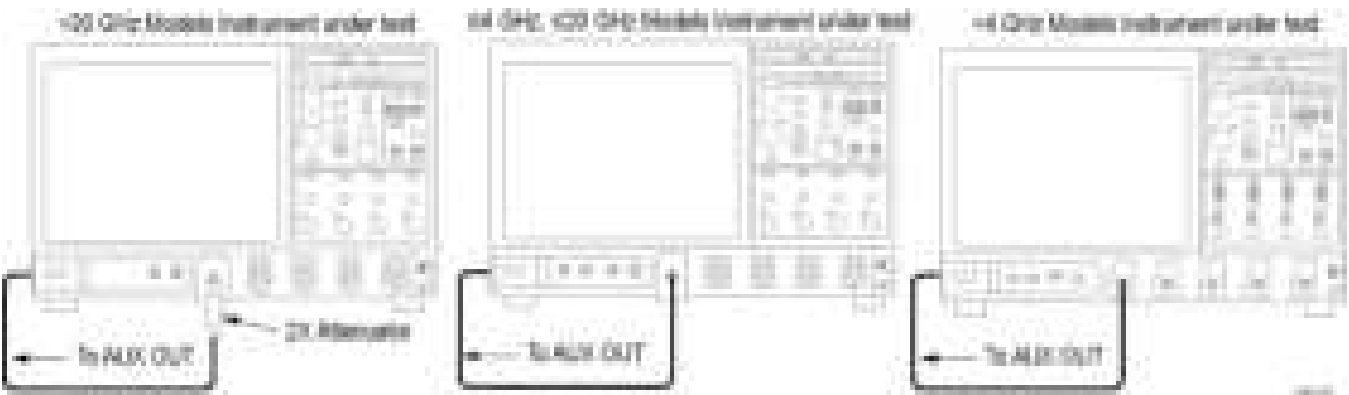

Figure 35: Aux Trigger Out test hookup
- a. *Hook up test-signal source:* Connect **Aux Out** to **Ch 1** through a 50  $\Omega$  precision cable and an adapter. (See Figure 35: Aux Trigger Out test hookup.)